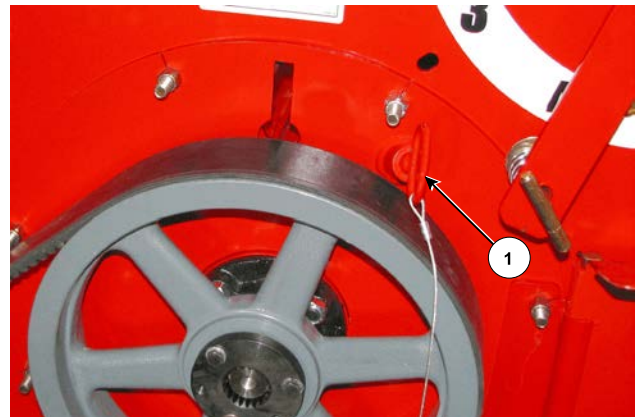

Figure 21: Lock Flail Drum With Pin
17. At the front tub wall, lock the flail drum, see *Figure 21*.
- Place the flail drum lock pin (1) into the tube on the front tub wall.